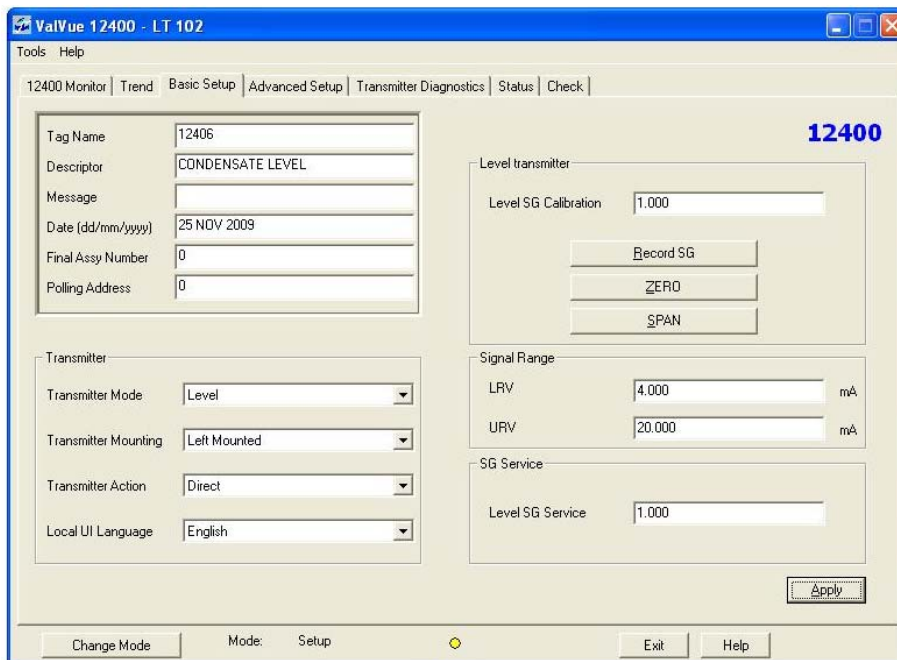

Figure 143 Saving Tag Information Changes
2. Click **Apply** (Figure 143) to save the changes.